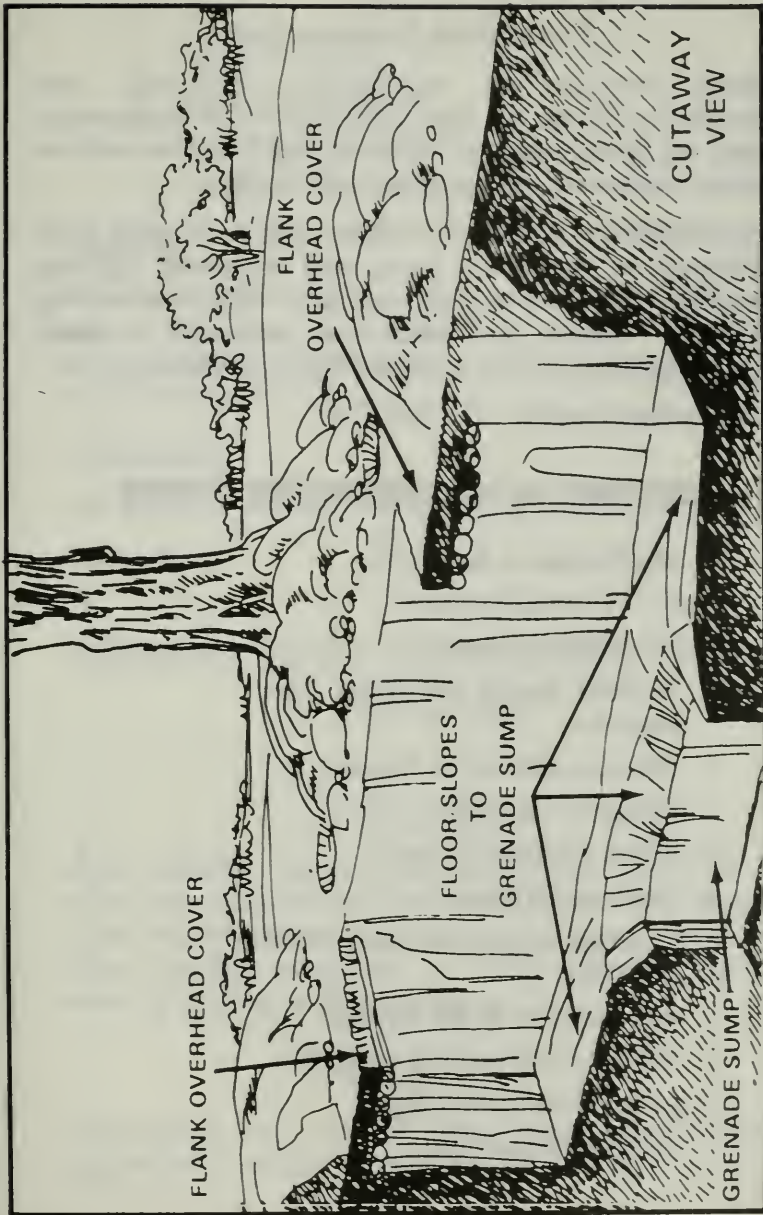

Figure 225. Flank overhead cover.
g. Construct flank overhead cover when frontal overhead cover would significantly increase the silhouette of the position, making it vulnerable to detection (Figure 225).